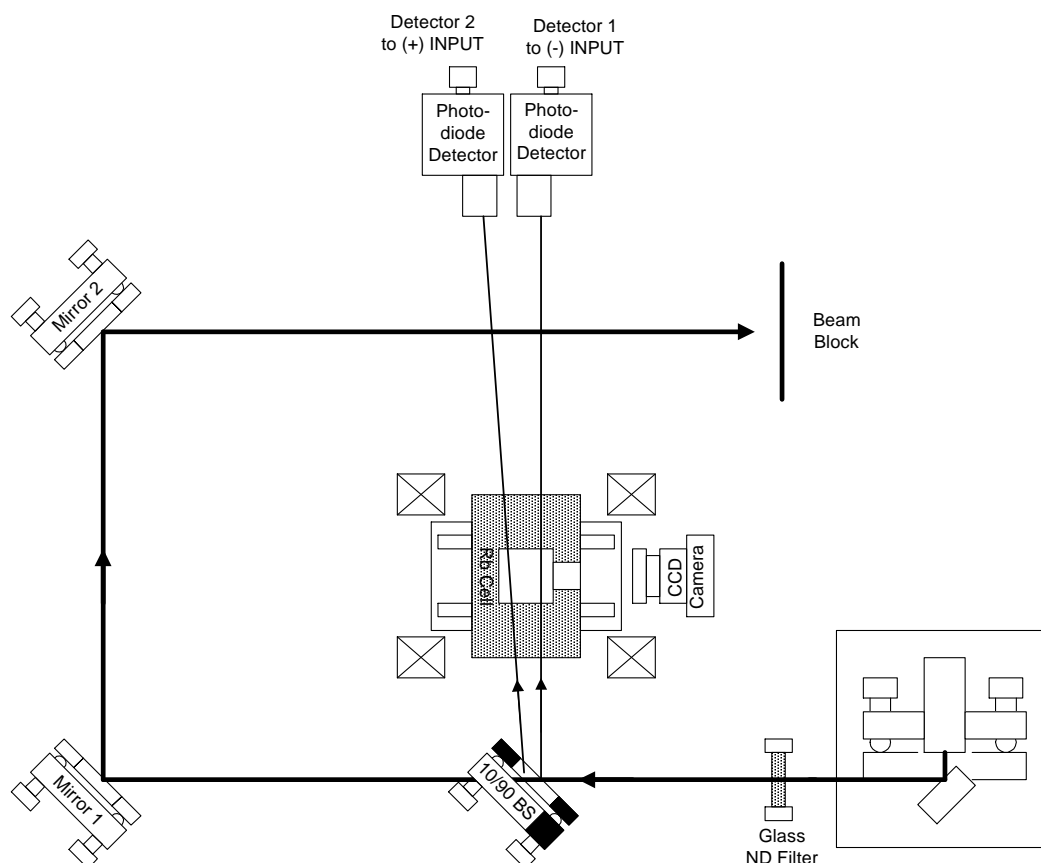

Figure 3. Turning mirrors added to setup.
- Now, add the two turning mirrors to the setup, as shown in Figure 3. Move the Beam Blocker to the new location shown.